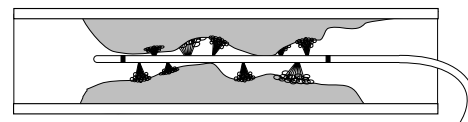

Figure 1
2. Place the Fountain Infusion Catheter into position under fluoroscopic guidance following standard hospital protocol. The Fountain Infusion Catheter will pass through a standard 5F introducer sheath and over a 0.035" (0.89 mm) guide wire. The two radiopaque marker bands on the Fountain Infusion Catheter indicate the infusion segment where side hole infusion occurs. (Figure 1)